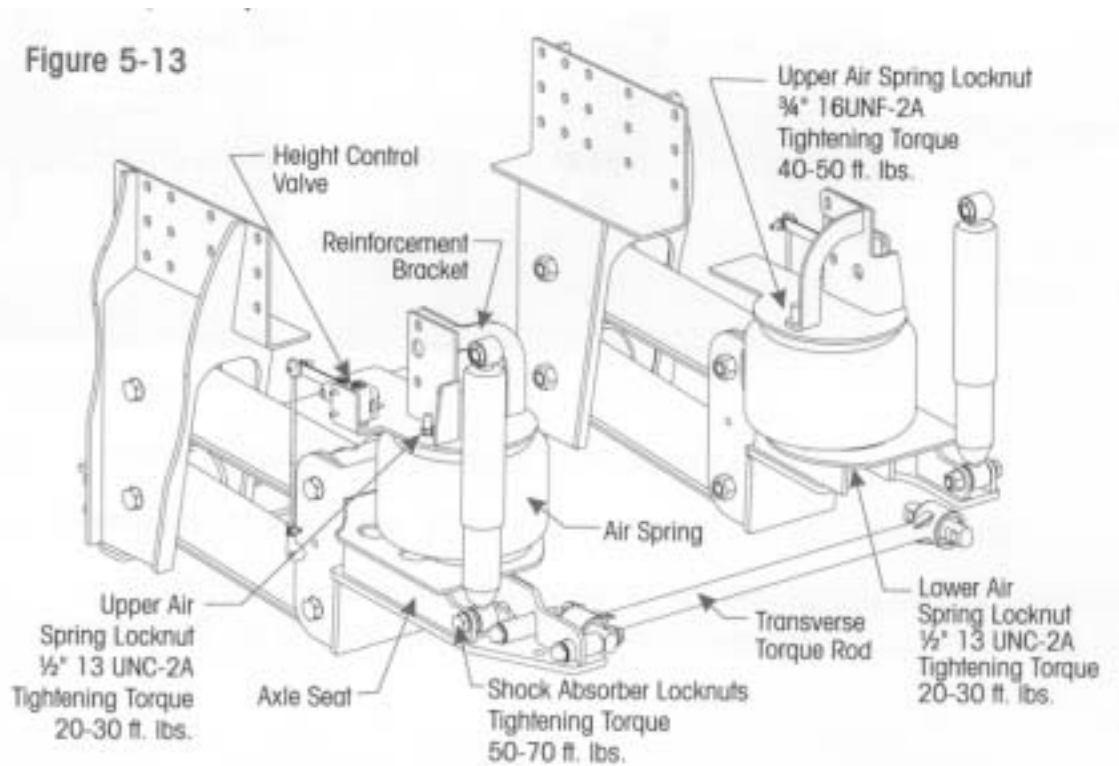

Figure 5-13
7. Remove the locknuts and washers that connect the air spring to the upper air spring hanger and the reinforcement bracket. **Figure 5-13.**
3. Tighten the ½" locknuts to 20-30 foot pounds torque. Tighten the ¾" locknut to 40-50 foot pounds torque. **Figure 5-13.**
2. Install the air spring in the air spring hanger and reinforcement bracket by inserting the studs into the appropriate holes and attach washers and locknuts. Tighten the ½" locknut to 20-30 foot pounds torque. Tighten the ¾" locknut to 40-50 foot pounds torque. **Figure 5-13.**